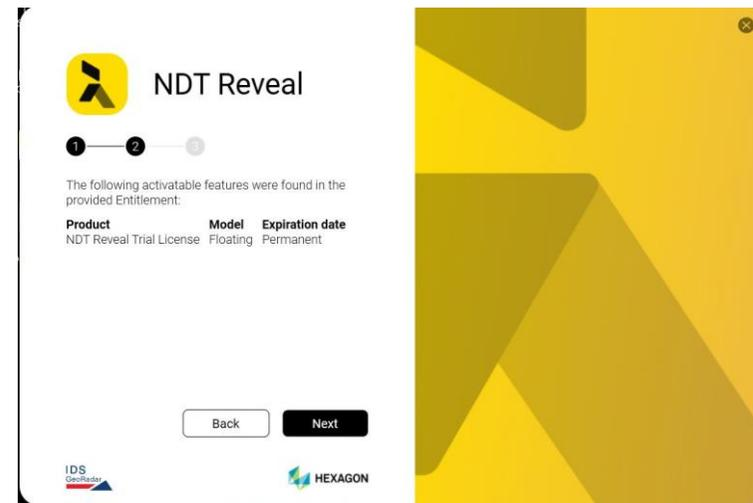

Fig. 12 Type of License linked to the EID
12. Press NEXT to confirm the type of license linked to the EID (Fig. 12),